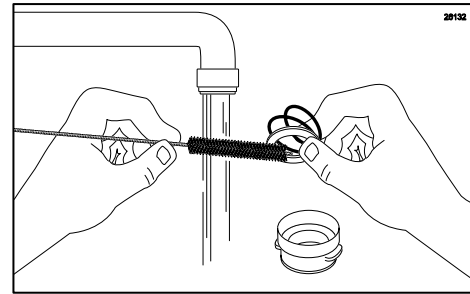

Figure 85
4. Clean the two o-rings, the white gasket and the Spout Adapter with a small brush and detergent water, and rinse thoroughly. (See Figure 85.)